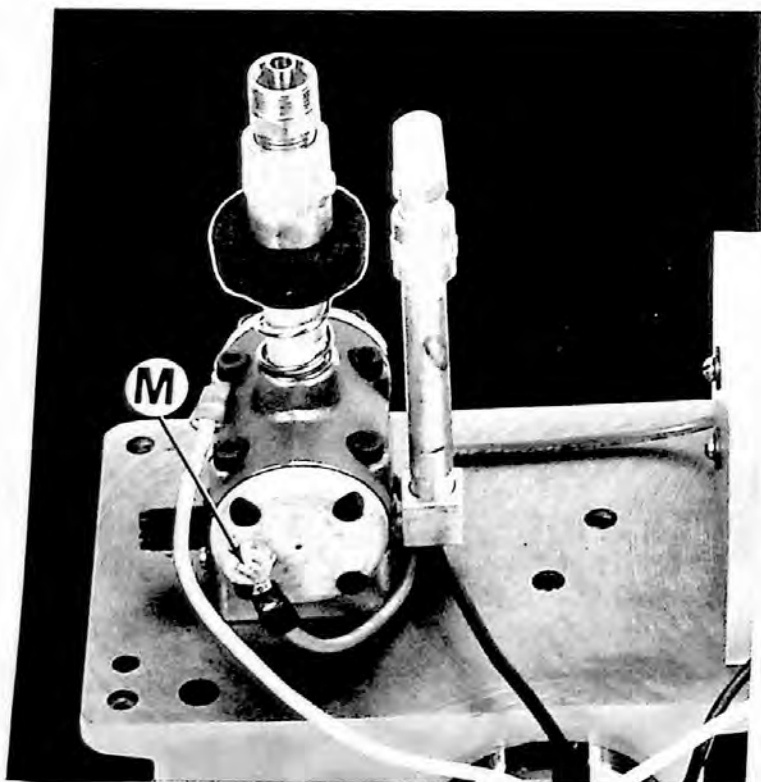

Figure 51 — Knockout Control Air Valve
(a) Remove red wire from terminal "M", Figure 51.
- (d) Replace red wire on terminal "M", Figure 51.